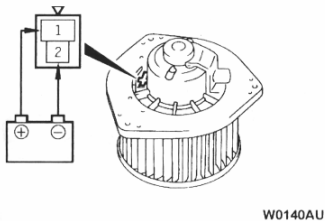

Fig 21-30
2) Inspection(see Fig.21-30,21-31)